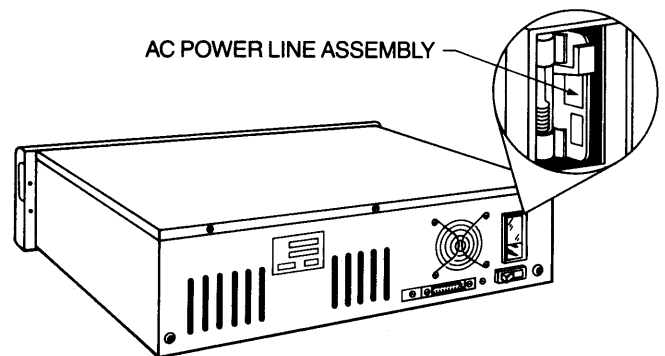

Figure 4-1. AC Power Connector Assembly
The AC Power Connector assembly on the back of the DSD 430/470 chassis contains a small printed circuit (PC) board. Figure 4-1 is a diagram of the Connector assembly. You can make conversions between the two low line voltages (100 VAC or 115/120 VAC) by pulling out this board, changing its orientation and rein-